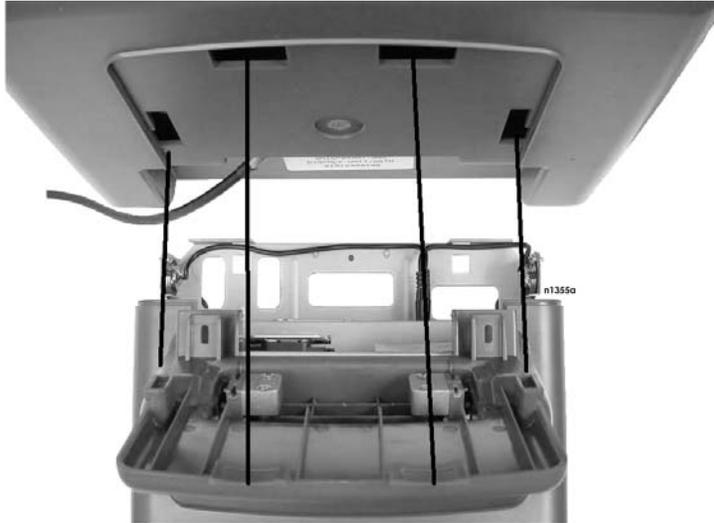

Figure 3-44: Attaching the 12.1" LCD/Touchscreen Head to the Pedestal
5. Refer to Figure 3-44. While standing in front of the pedestal, place the LCD Head onto the pedestal, then let it slide down to lock in place.